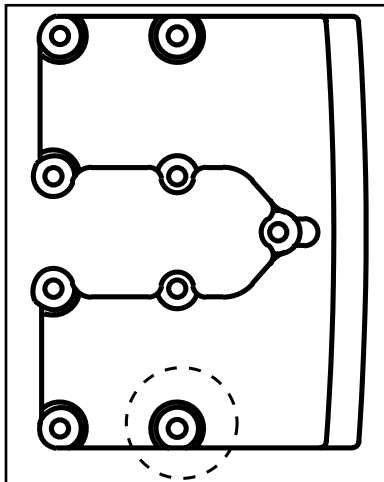

Figure 3
NOTE: Some rocker housings require $\frac{5}{16}$ -18 x 1½" bolts in rear, cam side position of both rocker housings, others utilize $\frac{5}{16}$ -18 x 2½" bolts in all locations. **See Figure 3, below.** S&S kit includes both lengths. Extra 1½" or 2½" bolts will not be used. All rocker housings utilize 1½" bolt in center location between pushrods.
- E. Determine whether 1½" or 2½" bolt is required in rear, camside position (**See Figure 3, page 4**) and discard other. Place required bolt with remaining ⅝ -18 x 2½" bolts and apply Loctite® 242 (blue) or equivalent to threads of each. Install and tighten in X-pattern to 15-18 ft-lbs. **See Picture 4, next page.**